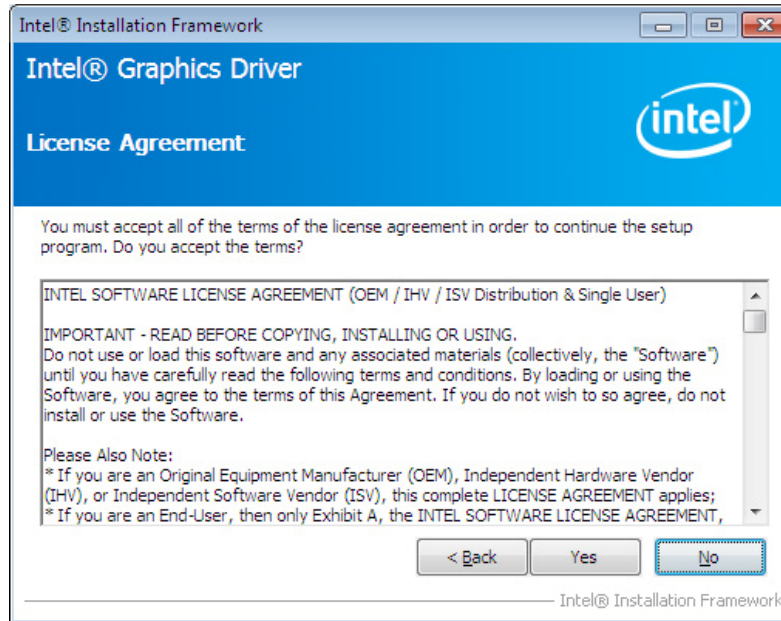

Figure 6-9: Graphics Driver License Agreement
Step 8: The **License Agreement** in **Figure 6-9** appears. Click **Yes** to accept the agreement and continue.